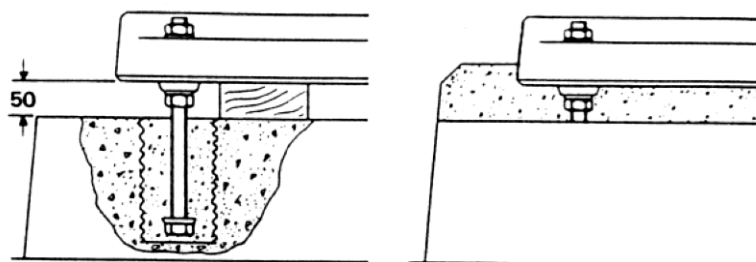

fig. 2
- concrete slab with anchor screws fig. 2